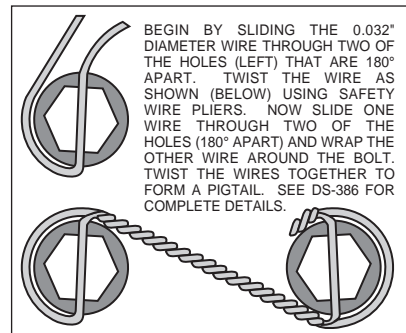
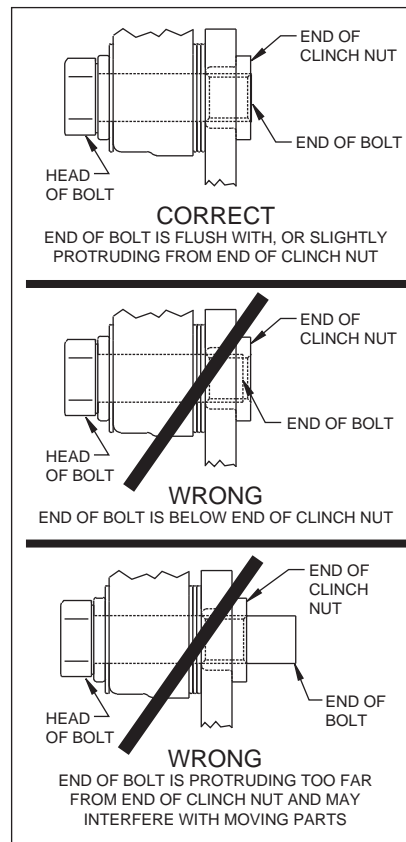

Figure 4. Safety Wire Diagram
Figure 5.
- With the slot pointing upward and the mounting ears pointing towards the rear of the vehicle, install the caliper mounting bracket (1) to the housing flange using the stock Original Equipment Manufacturer (OEM) bolts and nuts. Stock OEM hex nuts that retain the bracket (1) should be on the wheel side of the bracket. Apply red *Loctite*® 271 to the stock OEM bolt threads and torque to OEM specifications. **NOTE:** Some brackets act as the bearing retainers, while others help locate the bearing in the axle housing flange. If the stock bearing plates are still on the axle, the caliper mounting brackets (1) should be located between the axle housing flange and the bearing retainer plate. Make sure the heads of the caliper mounting bracket insert nuts are FACING OUTWARD TOWARDS THE WHEEL.
- Bolt the hat (2) to the rotor (3) using washers (4) and bolts (5). Torque bolts (5) to 180 in-lb. Safety wire bolts (5) using standard 0.032 inch diameter stainless steel safety wire as shown in Figure 4. Please refer to Wilwood's data sheet DS-386 (available at [www.wilwood.com/Pdf/DataSheets/ds386.pdf](http://www.wilwood.com/Pdf/DataSheets/ds386.pdf)) for complete safety wire installation instructions.
- Align the correct hole pattern in the hat (2) with the stud pattern on the axle flange. **NOTE:** Some OEM and after market axles come with stud sizes larger than 0.50" diameter. Verify stud size and have a qualified machine shop drill the hats to the correct size. Slide the hat/rotor assembly (2 and 3) over the wheel studs and against the axle flange face.
- NOTE:** Please reference the caution statement at the beginning of the assembly instructions. WITH THE BLEED SCREWS POINTING UP, mount the caliper (6) over the rotor (3) and onto the caliper mounting bracket (1) using washers (7) and mounting bolts (8). View the rotor through the top opening of the caliper. The rotor should be aligned in the center of the caliper. If not, adjust the caliper by using 0.032 inch shim washers (9), placing them between the caliper mounting bracket (1) and the caliper (6). Add as many shim washers (9) as necessary to achieve the correct alignment. **NOTE:** The end of the bolt must be flush with or slightly protruding from the head of the clinch nut. See Figure 5. Place spare shims (9) between washer and caliper mounting ear to achieve the proper mounting fastener configuration. Always use the same amount of shims on both the top and bottom caliper mounting bolts (8). Apply red *Loctite*® 271 to the mounting bolt threads (8), torque bolts to 30 ft-lb. Safety wire the caliper mounting bolts (8).
- Position the Wilwood disc brake pads (10) into the caliper (6) and fasten with cotter pin (11). Steel backing plate side of brake pad should face the caliper pistons.